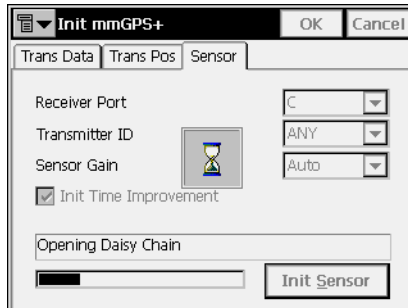

Figure 6-12. Initializing Sensor
3. Tap **Init Sensor** (Figure 6-12).